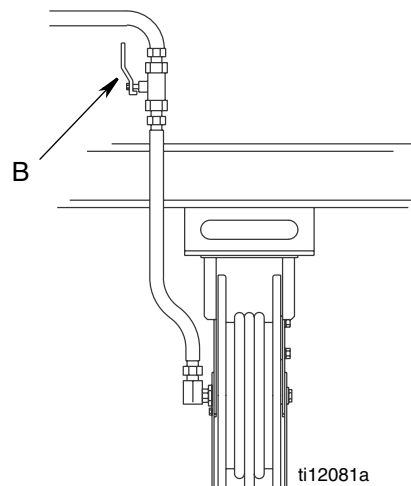

FIG. 8
4. Open all dispense position shut-off valves (B, FIG. 8) and start the pump to pressurize the system. See **Operation**, (LDM5 Meters - page 12; LDP5 Meters - page 21), for proper operation of meter.